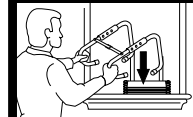

FIG. 2
3. Place hooks over window sill with ladder hanging on the outside of the structure. Attach the white end of the hooks to the inside wall. The red side of the hooks must be outside the window. (see Fig. 2)